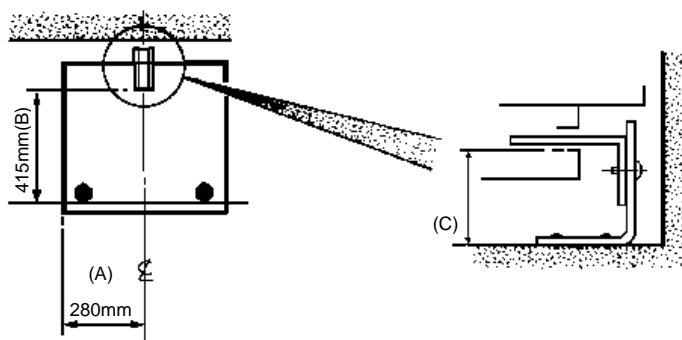
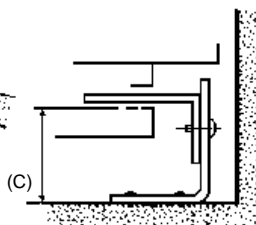

Fig. 1
Fig. 2
2. Mark off 280mm from the left hand side at the base of the appliance as shown in dimension 'A', Fig 1. This is the centre line of the fixing bracket.
3. Draw a line across the front edge of the feet (see Fig 1) and remove appliance from its position. Mark off dimension 'B' (see Fig 1) back from this line on the centre line of the bracket to locate the front edge of the lower bracket. Fix lower bracket (with two fixing holes) to the floor then measure the height from floor level to engagement edge on back of appliance, dimension 'C' of Fig. 2.
4. Assemble upper bracket to lower bracket so that underside of bracket is dimension 'C' +3mm above floor level. (see Fig. 2).
Reposition appliance and check that top bracket engages into appliance back, as shown in Fig. 2.